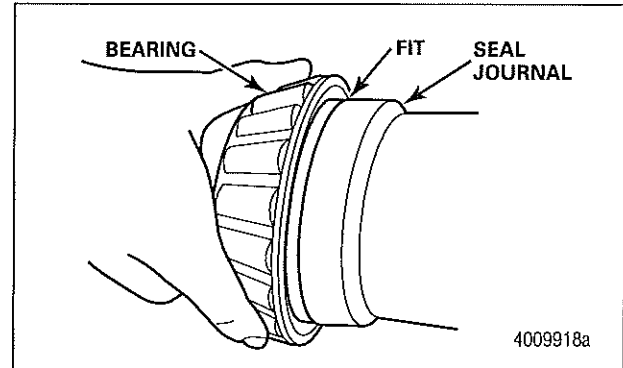

Figure 17
8. Install the inner bearing cone on the spindle and push it tight against the seal journal. While holding the bearing cone tight against the seal journal, ensure the bearing cone touches the seal journal all 360 degrees around. Figure 17.